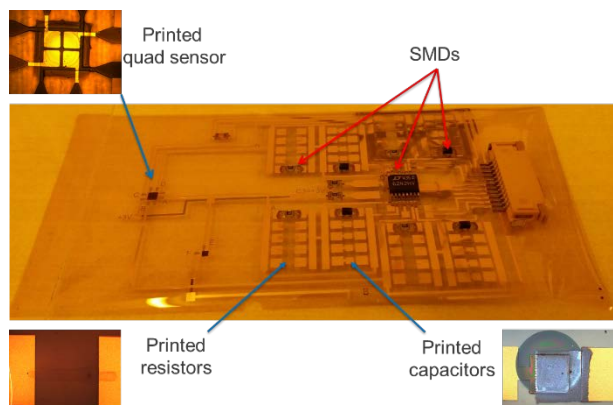

Figure 1: Components printed on FCB with embedded SMDs – first step towards demonstrator.
The sun sensor described here consists of four single organic photo diodes (OPDs)^[1] with common bottom contact (thin Al-layer), printed active polymer-based layer and individual top contacts (a semi-transparent thin Au-layer). Other stand-alone components such as resistors, capacitors, thermistors, and OPDs were designed, printed and characterized by CSEM on HIGHTEC's pre-patterned polyimide (PI) substrates (Figure 1).